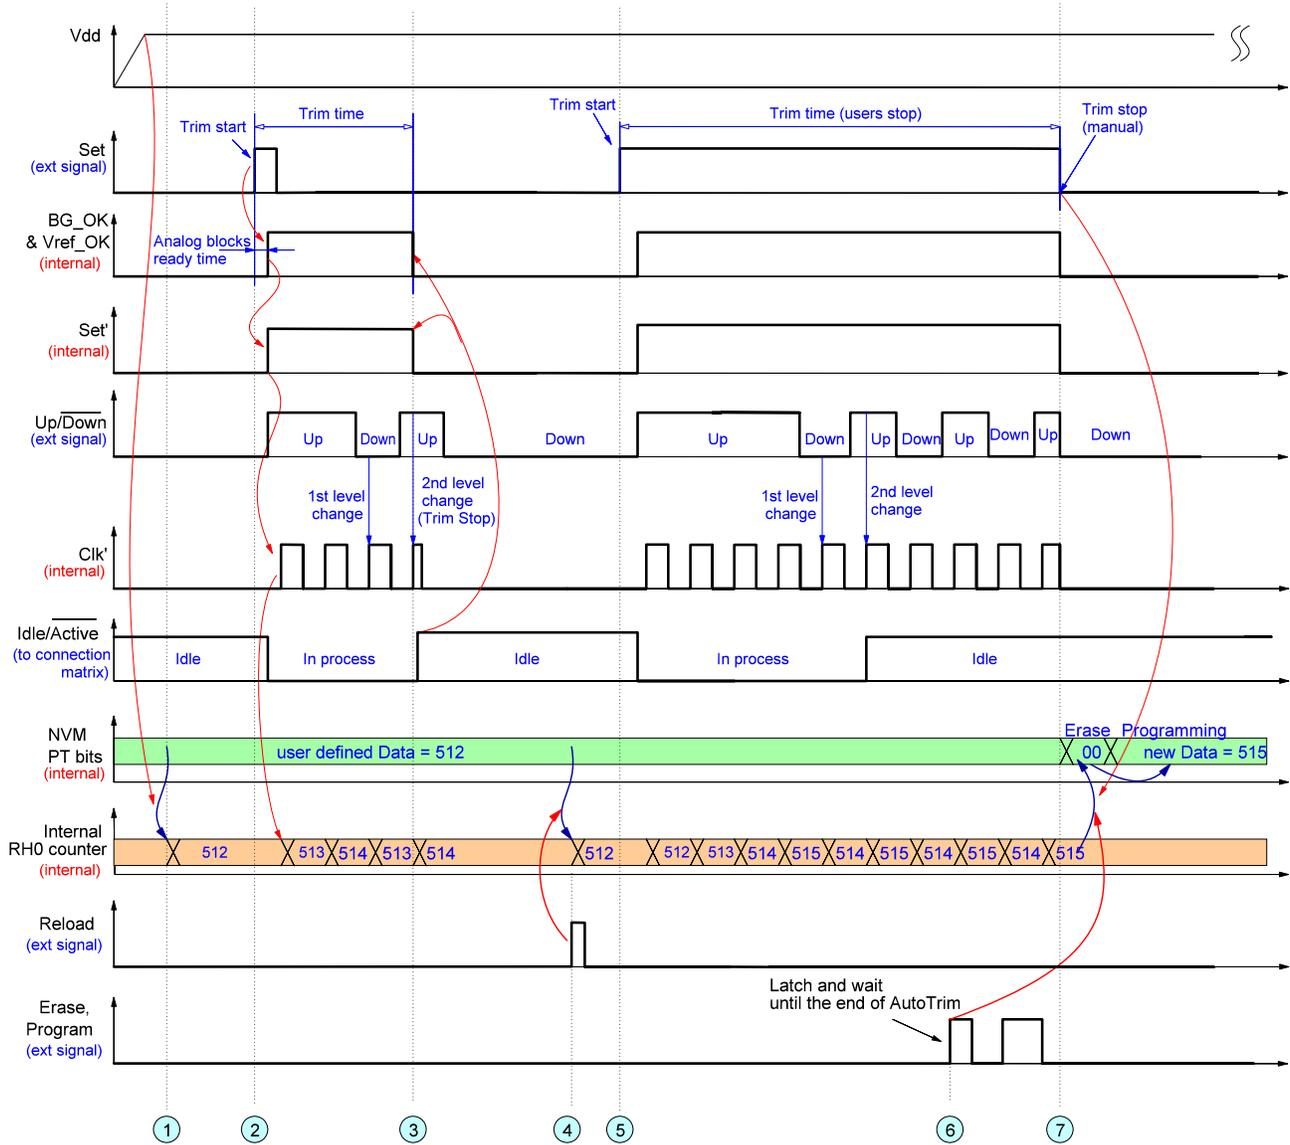
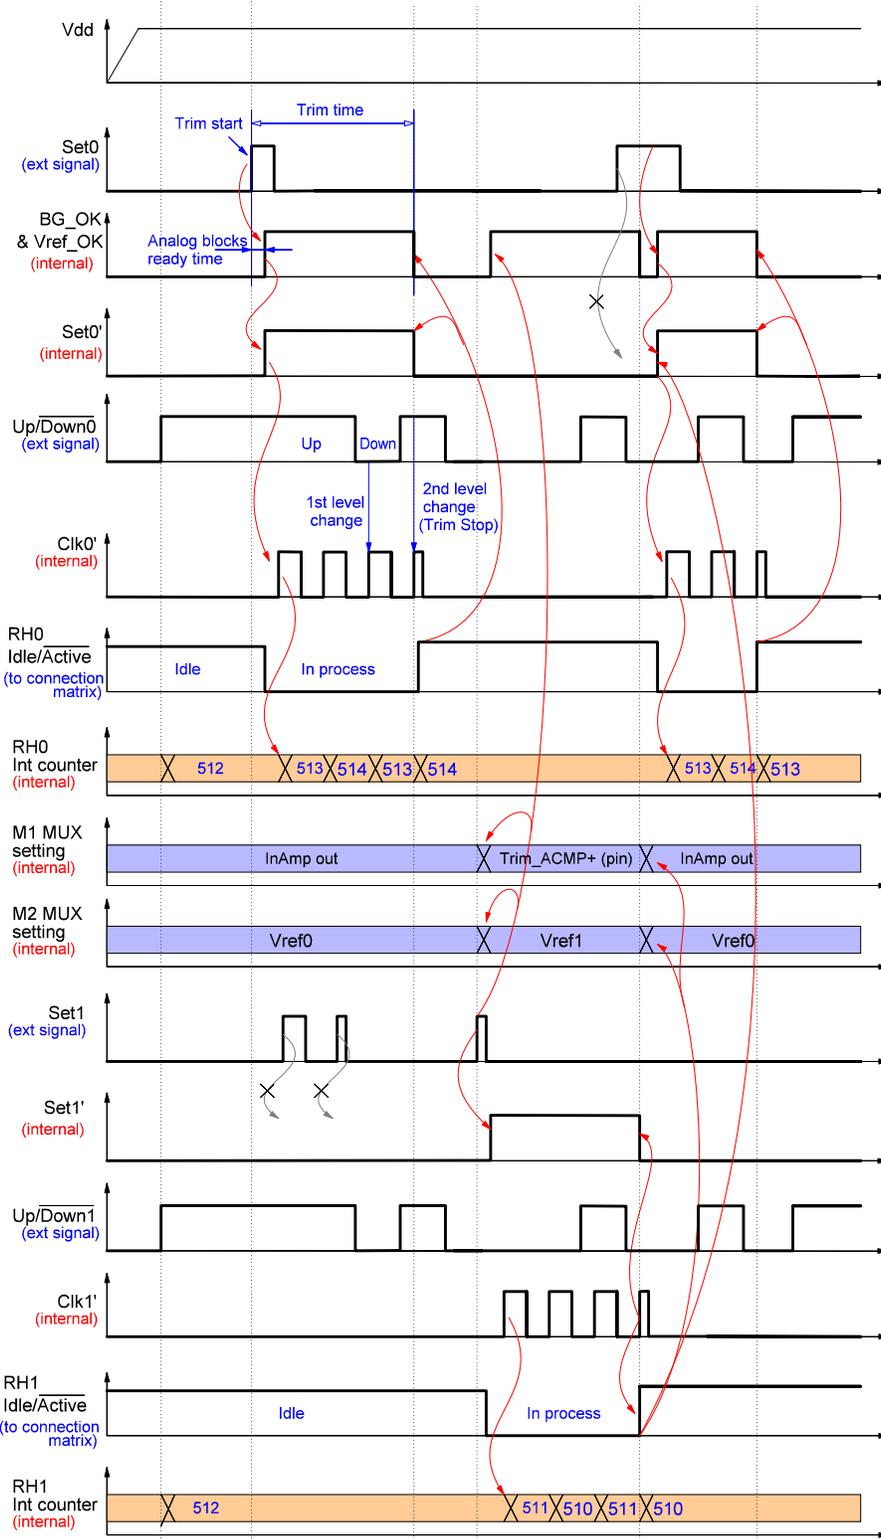

Figure 175: Example of Auto-Trim Process for a Single Rheostat
Figure 177: Example of Auto-Trim Process for Two Rheostats
- 1) 2nd time change on Up/Down input at the moment of rising edge on Clock input (see Figure 175).
- 3) the value of rheostat reaches its minimum (0).
The detailed flow of Auto-Trim process is shown in Figure 175, Figure 176, Figure 177.
The key events of the Auto-Trim process are the following (see Figure 175):
If the Set input signal is shorter than the trim time, the Auto-Trim process stops automatically after a stop condition occurs (event 3, Figure 175). However, if a stop condition comes and High logic level holds on the Set input, the rheostat value will be switched near the set point until a Low level on the Set input occurs (event 7, Figure 175). Note that the Idle/Active signal changes its level to High (Auto-Trim is done) even if the user keeps a High logic level at the Set input.
Figure 177 shows Auto-Trim process flow for two rheostats.